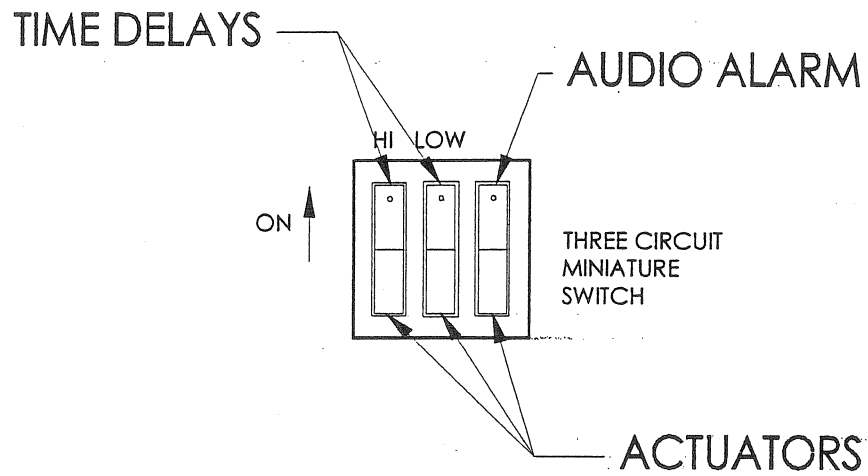

Figure 1-1 - Three circuit miniature switch (dwg# 2596)
- 10) THREE CIRCUIT MINIATURE SWITCH: each actuator on the miniature switch controls a different circuit as shown in Figure 1-1. If the actuator is set in the UP position, its corresponding circuit is ON. If the actuator is set in the DOWN position, the circuit is OFF.
- 11) AUDIO ALARM INDICATOR: when operational (see item 10), the buzzer will activate when a high alarm condition occurs
When power is applied, the GREEN power LED will light. A one minute time delay eliminates false alarms from occurring during the sensor's warm up period. After this time delay, the unit becomes fully operational. If time delays are required or the audio alarm indicator is not needed, the three circuit miniature switch can be set accordingly, refer to Section 1.1, Item 9, and Figure 1-1.